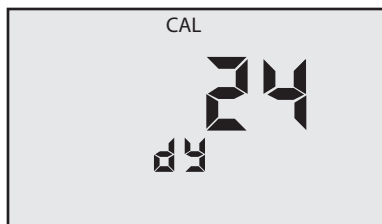

Figure 14
9. Press  to accept the change (new day) (see Figure 14).